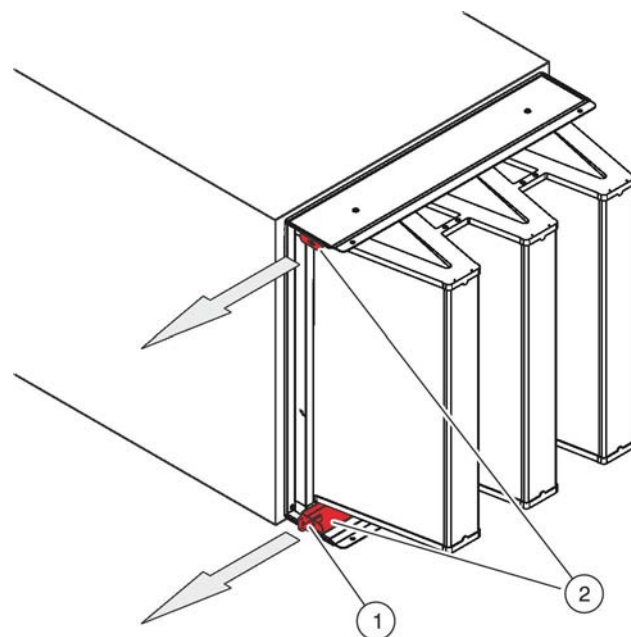

Fig. 59: Releasing the clamping rails
4. ▶ Use the special key (Fig. 59/1) to pull out the clamping rails (Fig. 59/2) as far as they will go.